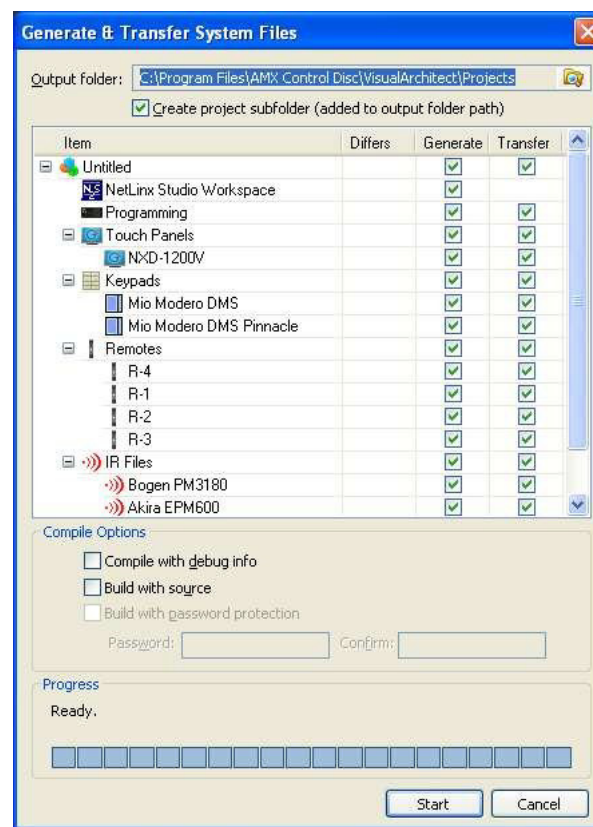

FIG. 263 Generate & Transfer System Files dialog
1. Select **System > Generate and Transfer System Files** (or click the Toolbar button) to access the *Generate & Transfer System Files* dialog (FIG. 263).
1. Select **System > Generate and Transfer System Files** (or click the Toolbar button) to access the *Generate & Transfer System Files* dialog (see FIG. 263 on page 199):